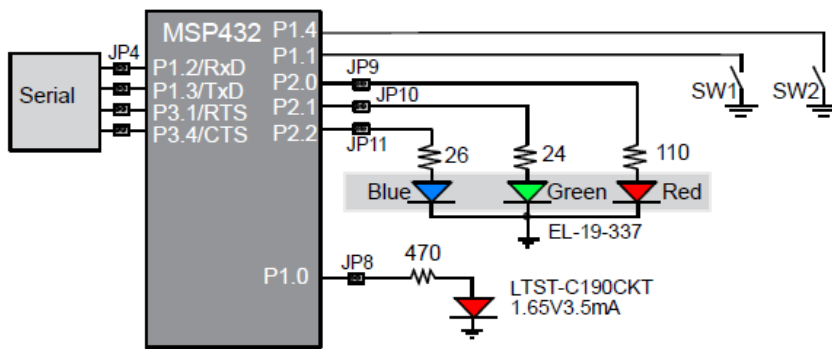

Figure 9: MSP432 Launchpad SW and LED connection
The connection on the MSP432 Launchpad is shown in Figure 9 below. Table1 and Table2 shows the simulation of the SW1/SW2 and LED colours for the line sensors and Robot motor. You can test the behaviour of the 3-stage FSM with the SW1/SW2 and LEDs, before proceeding to integrate the actual 11-stage FSM in section 7.3.
- Note that motor actions are simulated by LEDs in this project. See Figure 9.